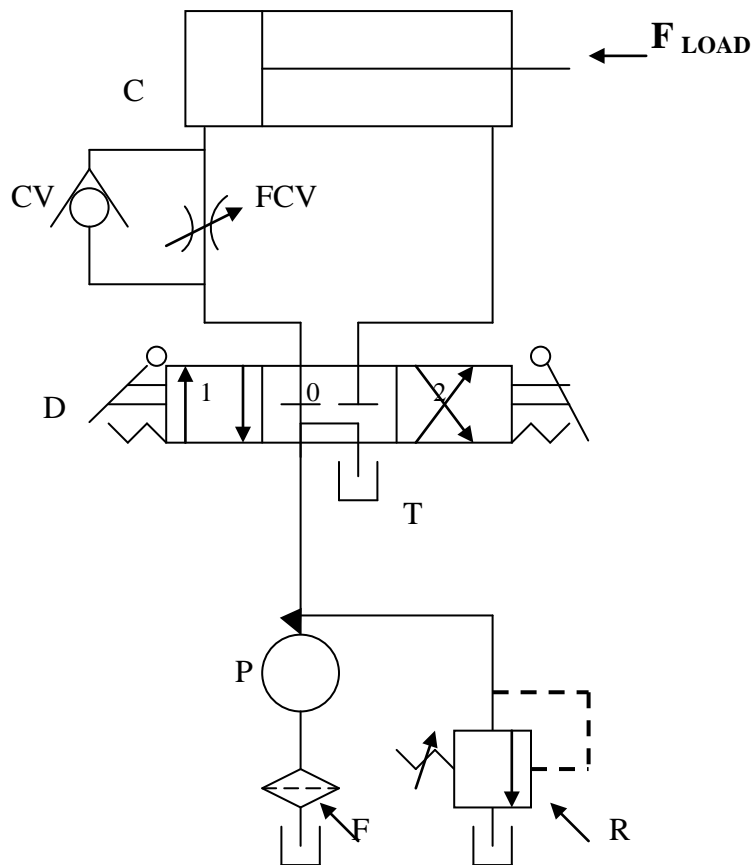

Fig 5.16. **Meter – in circuit.**
1. **Meter – in Circuit** : In this type of speed control, the flow control valve is placed between the pump and the actuator. Thereby, it controls the amount of fluid going into the actuator. Fig 5.16 shows meter-in circuit.